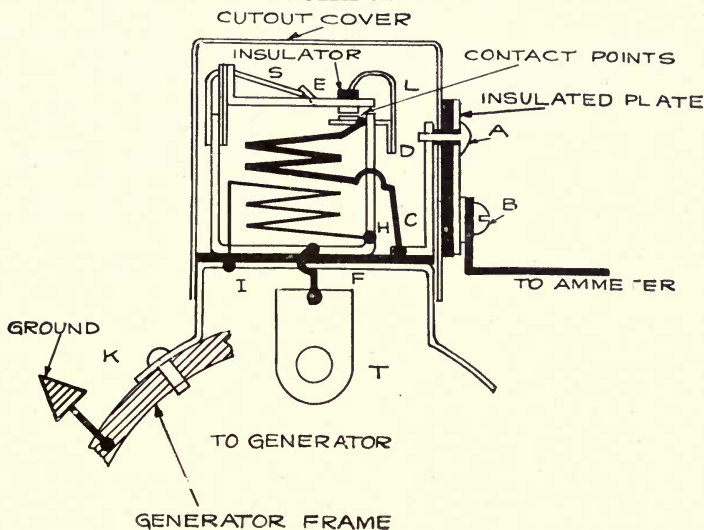

FIGURE 24b.
**(b) CUTOUT CONTACT POINTS STUCK TOGETHER, OR OTHER CUTOUT TROUBLE.** If pointer on your ammeter again moved away from the "0" line when you replaced the wire on the cutout, take out the screw in the cover which is marked "A" in Figure 24B. Then pry off the cutout cover. If your ammeter pointer goes back to "0" when you remove the cover and hold the cover away from any metallic part of the car one of the following troubles may be present:
(d) COVER SCREWS A OR B (SEE FIGURE 24B) GROUNDED TO CUTOUT COVER—TEST. With the wire still attached to screw B on the cutout cover, touch the cutout cover to the oiler at the rear end of the generator so as to ground it. If the pointer on your ammeter now moves away from the "0" line again, screw B is grounded to the cutout cover. If the pointer does not move from the "0" line, push screw "A" through its hole in the cover and hold it in place firmly. Now touch the cutout cover to the oiler at the rear end of the generator again. If pointer on your ammeter now moves away from the "0" line, screw "A" is grounded to the cover. If pointer does not move in either test, see (e) below.
(e) PIECE C (SEE FIGURE 24B) OR CURRENT COIL ON CUTOUT GROUNDED—TEST. Use a lamp circuit tester as shown in Figure 25 or 26, page 57. Hold one test point on piece C and hold other test point on the base of the cutout. If lamp lights, piece C or current coil are grounded to the base, or current coil is short circuited with voltage coil, and following "Remedy" should be consulted.
REMEDY. Carefully inspect the ends of the wire of the current coil. See that they do not touch anything but pieces C and D (see Figure 24B) to which they are soldered. If these wires are clear from all other parts,